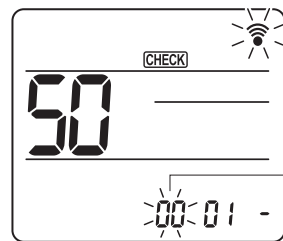
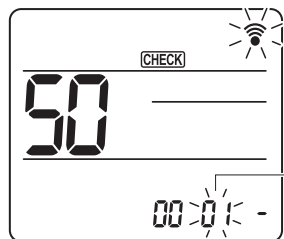

Fig. 6-15
Fig. 6-16
(2) Setting the unit number
Press the [UP] button to set unit number (A). (Fig. 6-15)
(3) Select a mode
Press the [UP] button to set Mode number (B). (Fig. 6-16)